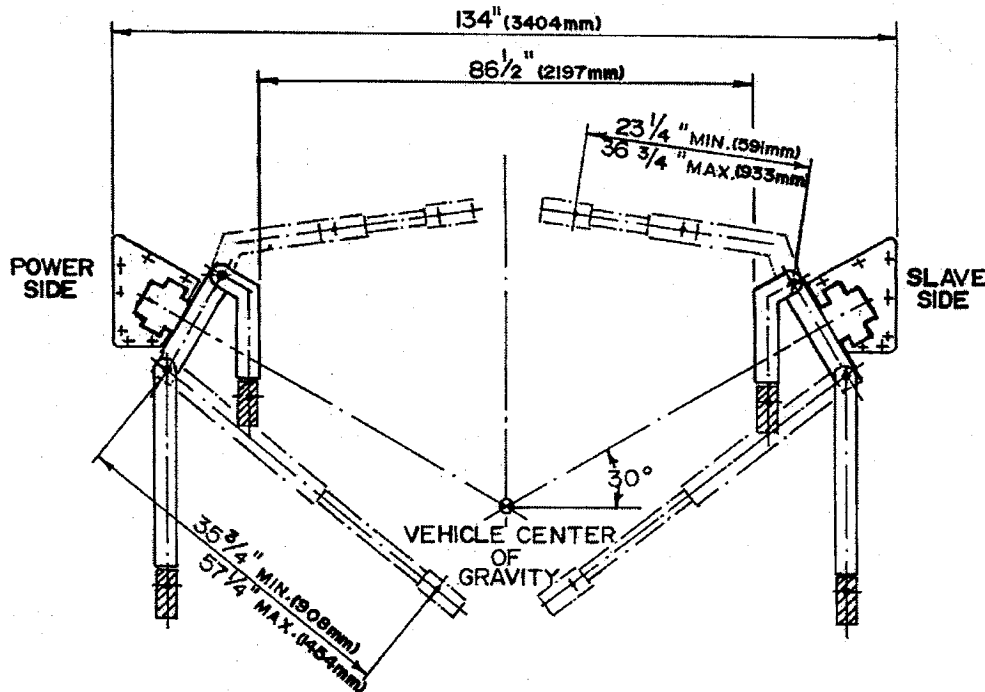

Figure 6 – Arm Installation
1. Remove (4) 5/16"-18UNC x 3/4"LG. hex head bolts that are locking the arm pins to the arm. Install arms to carriages. Install so that the shorter arms (with the 30° bend) are on the front, and the long arms on the rear. Refer to **Figure 6**.